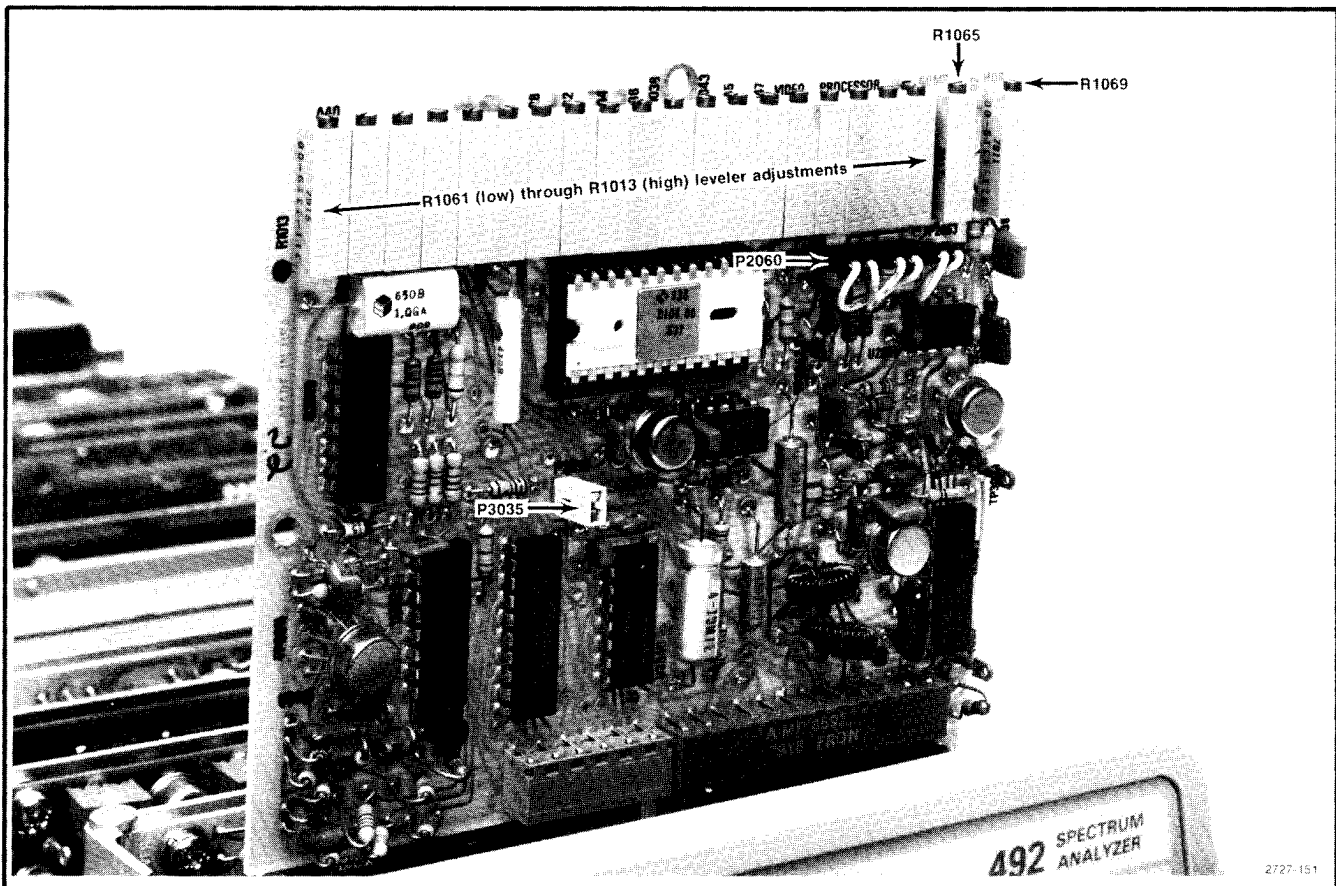

Fig. 3-36. Adjustments and test points on the Video Processor board.
c. On the Video Processor board pull the Leveler Disable plug P3035 (see Fig. 3-36).
m. Unplug P2060 (Fig. 3-36) and move it from Normal to Invert mode (one pin to the left). Replace Leveler Disable plug P3035.
n. Start with R1061 and adjust the leveling potentiometers sequentially, from R1061 through R1013, so the contour of the baseline is an average of the SAVE A display. In the process use Horiz adjust R1069 (Fig. 3-36) to shift the baseline to the right or left so the baseline aligns with the average contour of SAVE A display.